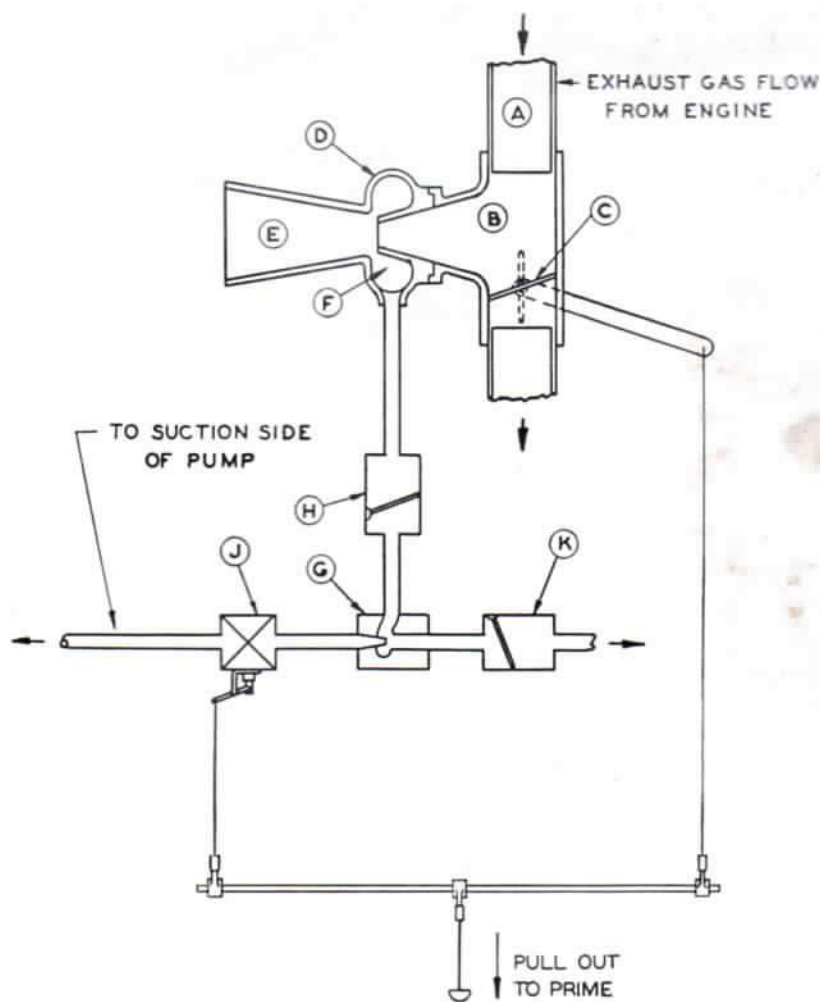

FIG. 7
The exhaust gases flow from the engine to atmosphere through the exhaust pipe "A" Fig. 7. In the exhaust pipe is a valve "B" which stops the normal exhaust flow by means of the butterfly "C," diverting the entire flow thru the conejector priming unit "D." The exhaust outlet area of the conejector "D" is greatly reduced which causes an engine back pressure. At full throttle with valve "C" closed (in priming position) this back pressure causes an ejector velocity at ejector outlet "E" just beyond the conical jet. This in turn creates vacuum in chamber "F." The vacuum chamber is connected to hydrant conejector "G," but separated by swing check "H" and to the pump through draft-hydrant valve "J."
6. Check the primer. (A) Look at the right hand tail pipe when the priming lever on the bottom of the pump panel is pulled out to be sure the exhaust gas is being diverted through the ejector. Little or no exhaust gas should leave the tail pipe with the lever out. If the butterfly valve in the exhaust pipe is not closed, inspect the operating shaft and rod linkage to determine and correct the cause of the trouble. (B) Check linkage to be sure the draft hydrant valve (J) Fig. 7 is open when priming lever is pulled out. If this valve is not open, readjust linkage to cause the valve to open when the lever is pulled out.